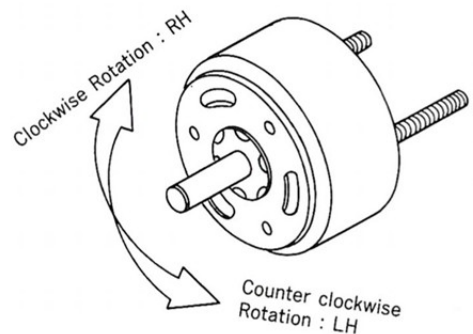

Fig. 3
B) Direction of Rotation (Fig. 3)